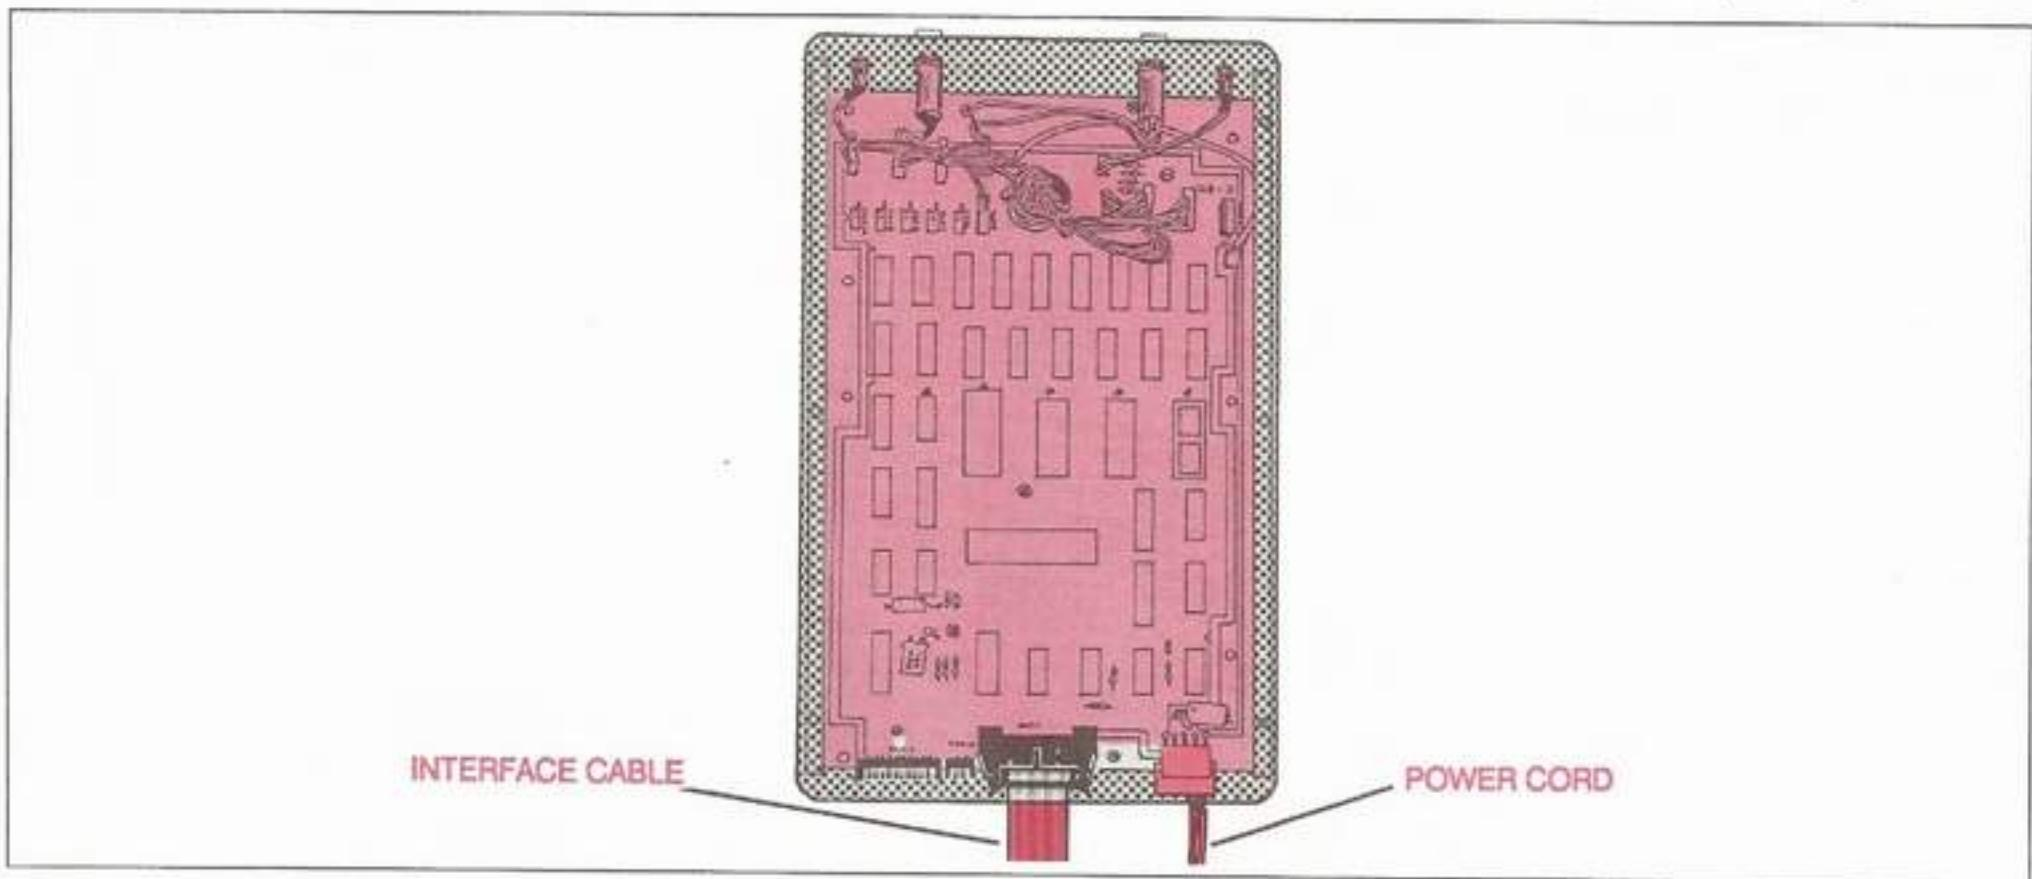

Fig. 87: Pro-Arm with Base Up
- _____ a. With the power cord and the interface cable still connected to the Pro-Arm, carefully set the Pro-Arm on its back, as shown in Fig. 87.
- ____ a. With the power cord and the interface cable still connected to the Pro-Arm, carefully set the Pro-Arm on its back, as shown in Fig. 87. **Caution: DO NOT pull or crimp the power or interface cables. They must continue to operate during the remainder of this exploration.**